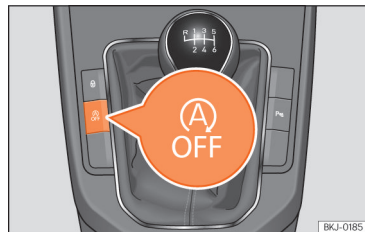

Fig. 85 Centre console: Start-Stop system button.
- To manually switch on/off the Start-Stop system, press the  button »» Fig. 85